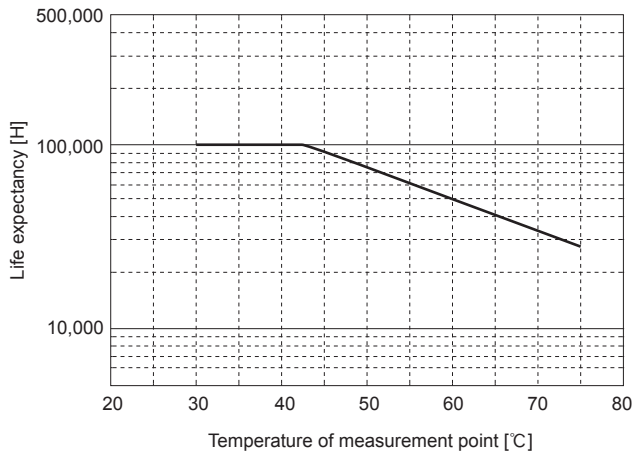

Fig.4.1 Life expectancy of fan (PJA300F/600F)
■ The life expectancy time (R (t) = 90%) of the built-in fan depends on the operating condition as shown in Fig. 4.1, 4.2.